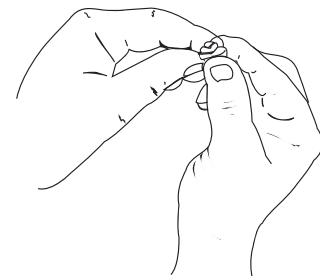

Fig. 34
5. Squeeze the filter to spread and remove excess oil (Fig. 34).